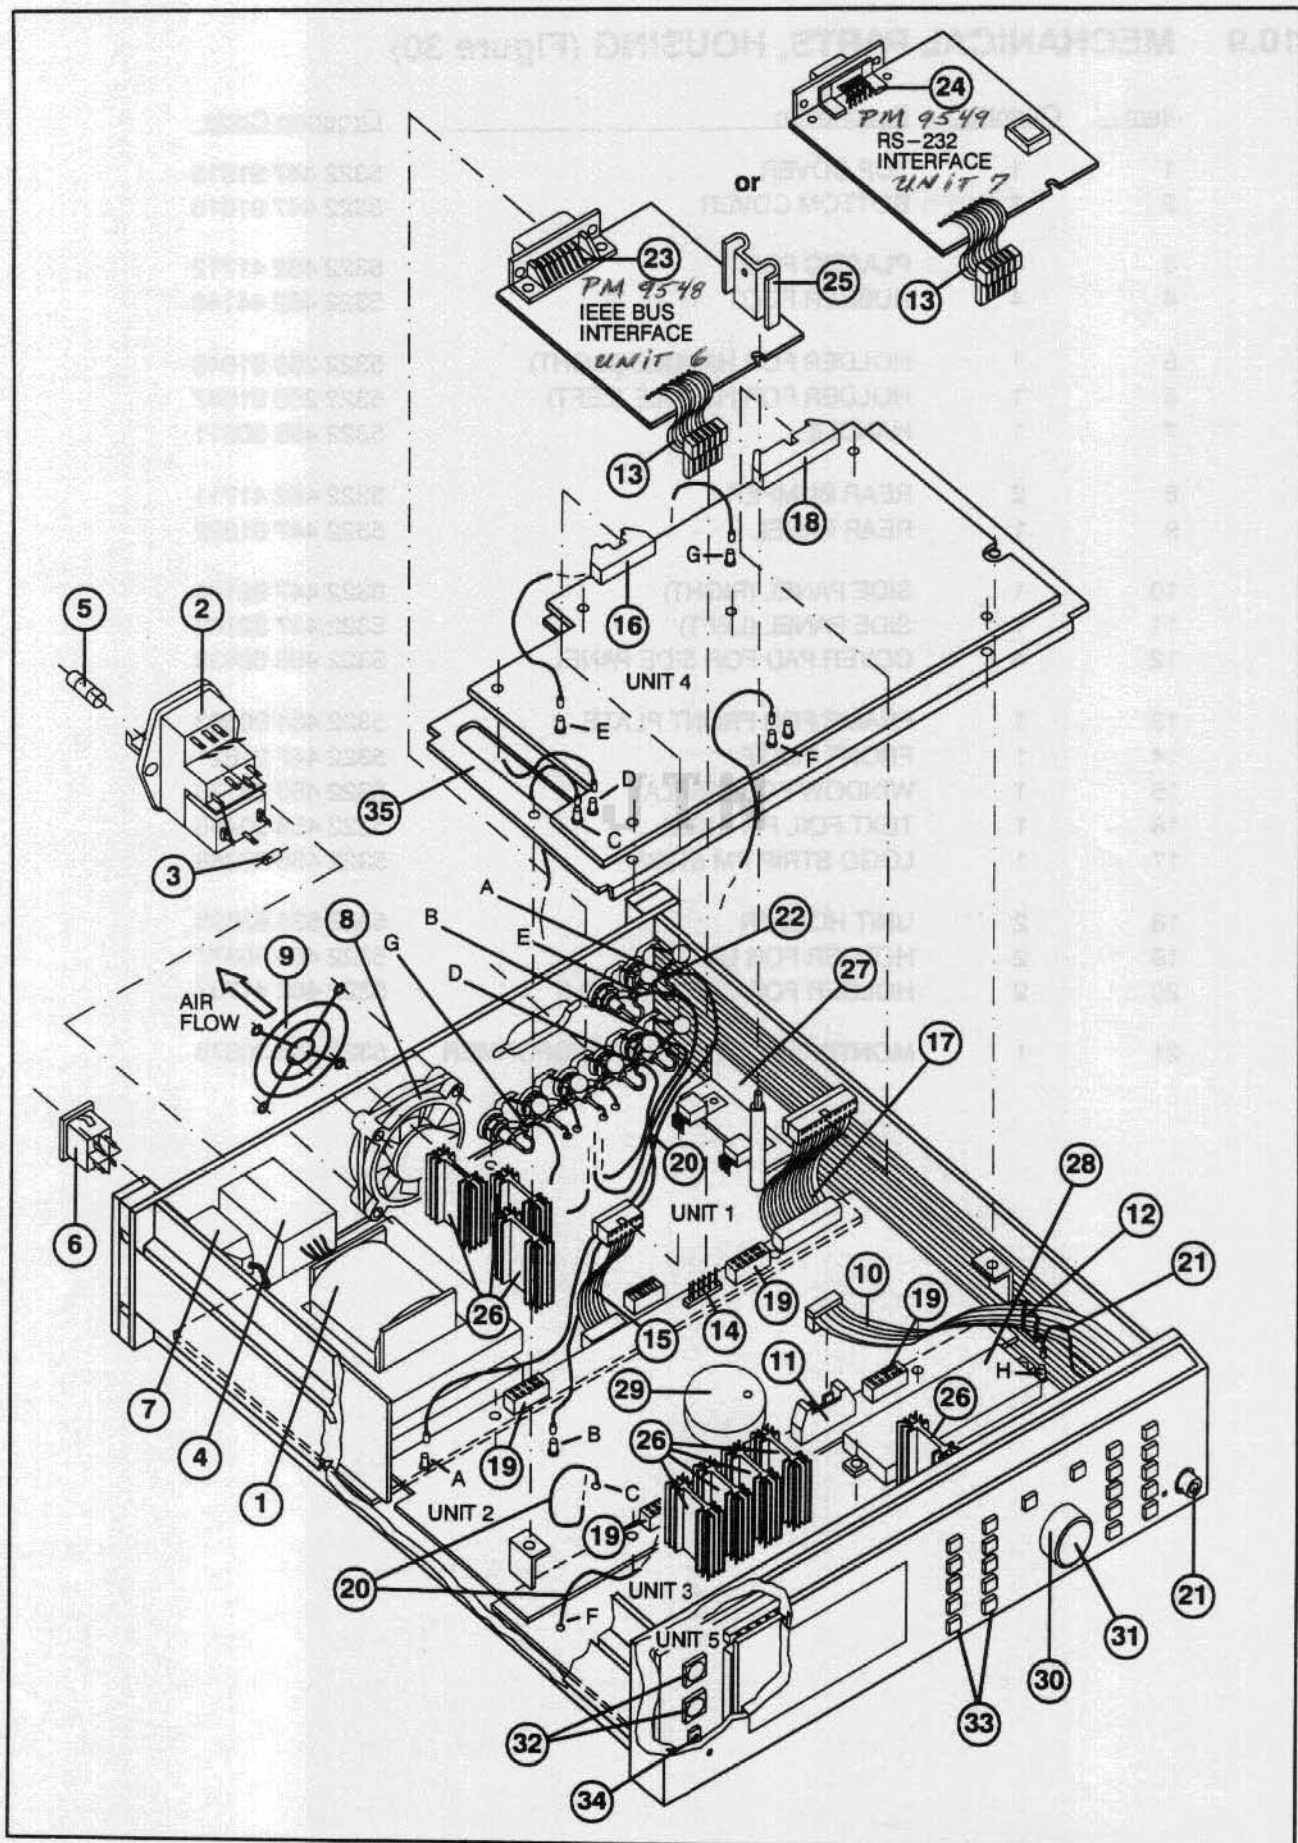

Fig. 31 Mechanical Parts on Units, Cables, Miscellaneous
10.10 MECHANICAL PARTS ON UNITS, CABLES, PARTS NOT ON UNITS, MISCELLANEOUS (Figure 31)